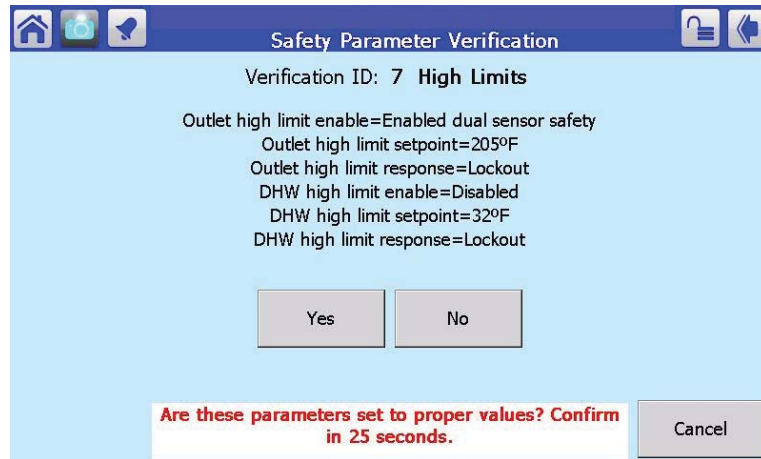

FIGURE 21 - VERIFICATION PROCEDURE
3. The parameters that you changed will appear; verify the change you made is correct. Then press Yes. Figure 21.